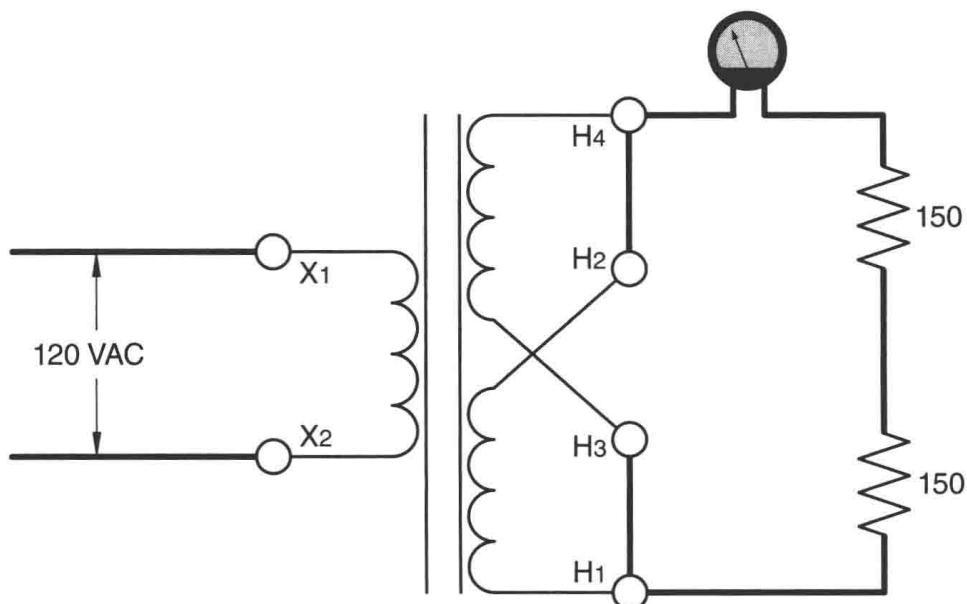

Figure 20-6 Connecting the load to the secondary.
25. Connect two 150-ohm resistors in series. Connect these two resistors in parallel with the high-voltage winding. Connect an AC ammeter in series with one of the secondary leads, as shown in Figure 20-6.